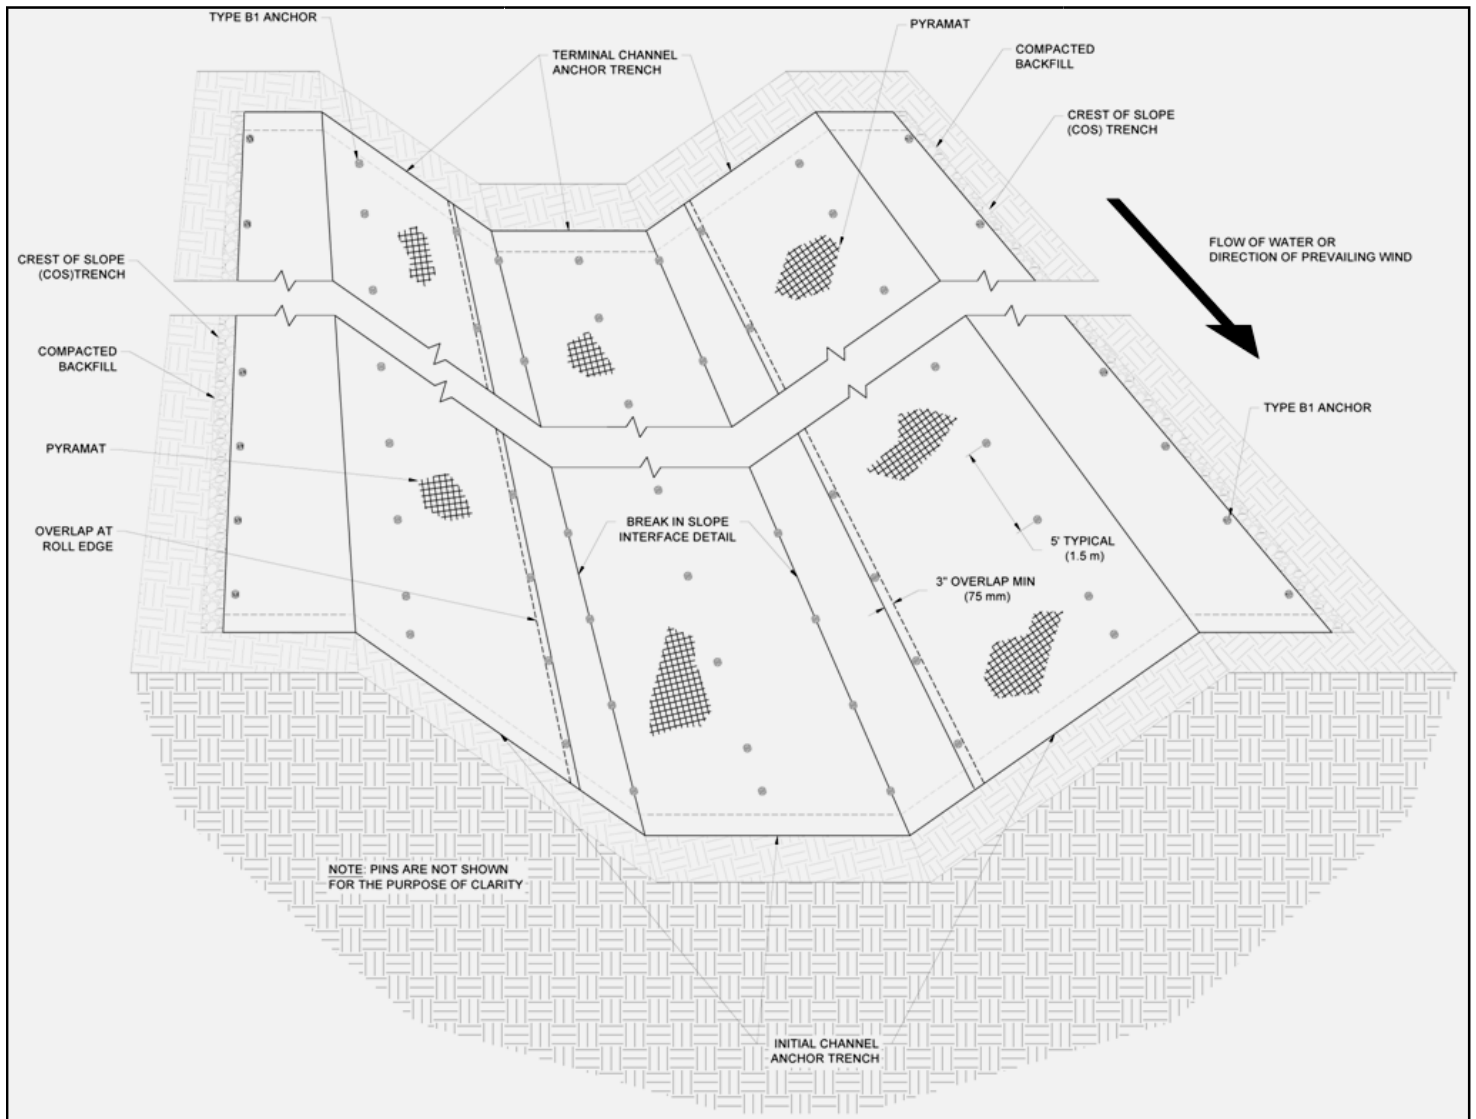

Figure 27: Completed Channel Isometric View
18. At a minimum, Pyramat panels should be pinned entirely across the channel surface, pins and PDEAs should be installed in the trenches, and the trenches should be backfilled and compacted at the end of each day to minimize rework in the case of a major rain event. Specific project conditions may warrant further evaluation of installation order for ease. An example isometric view (Figure 27) of a channel armored with ArmorMax can be seen below for overall reference. Consult Propex Engineering Services at (423) 553-2450 with any questions that you may have.